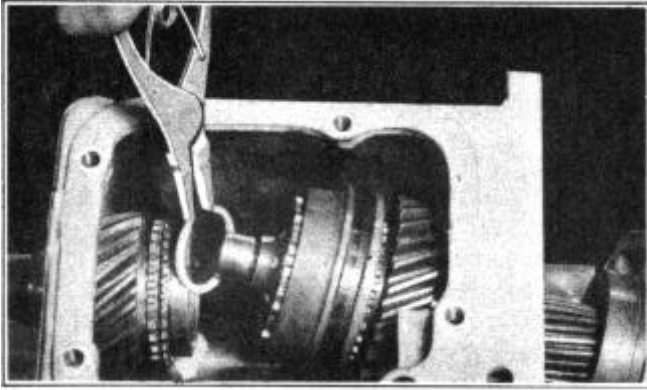

FIGURE 7
7. Remove mainshaft lock ring with Lock Ring Pliers KMO-630, Figure 7.